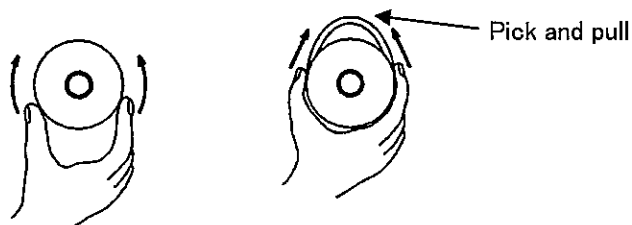

Fig. 7-21
#### (2) Piston packing (Fig. 7-21)
#### (3) Tube gasket (Fig. 7-21)